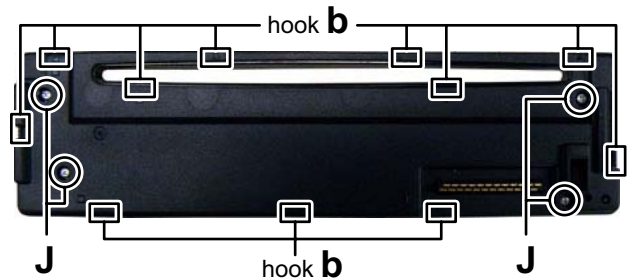

Fig.8
3.1.5 Removing the Switch board (See Fig.8)
- From the reverse side of the disc plate, remove the screw **D** attaching the PHOTO BOARD assembly. (See Fig.8.)